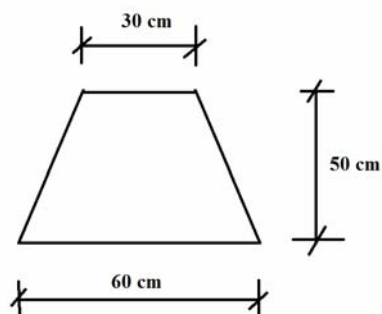

Fig No.11
- c) Calculate centre of gravity of frustum of solid circular cone as shown in fig. no. 11 wrt bottom.